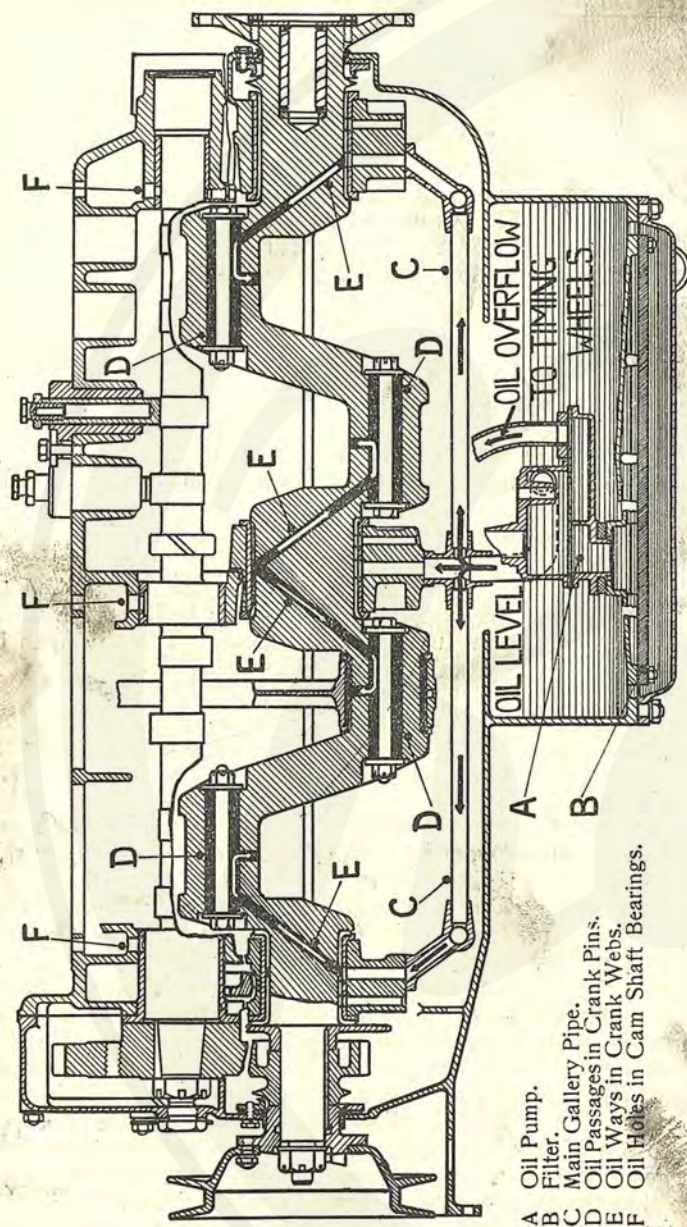

Fig. 7.—Engine Lubrication System.
**ALL** the main parts of the engine are lubricated automatically by the oil pump which draws oil from the supply carried in the sump, and beyond regular replenishment and occasional cleaning the system should require no attention. The oil filler is situated on the near side of the engine on the timing gear cover and is provided with a strainer and an easily detachable cover. An oil level cock is situated on the sump where it can be observed while filling up; a drain cock is also provided. Fig. 7 shows diagrammatically the lubrication system of the engine.